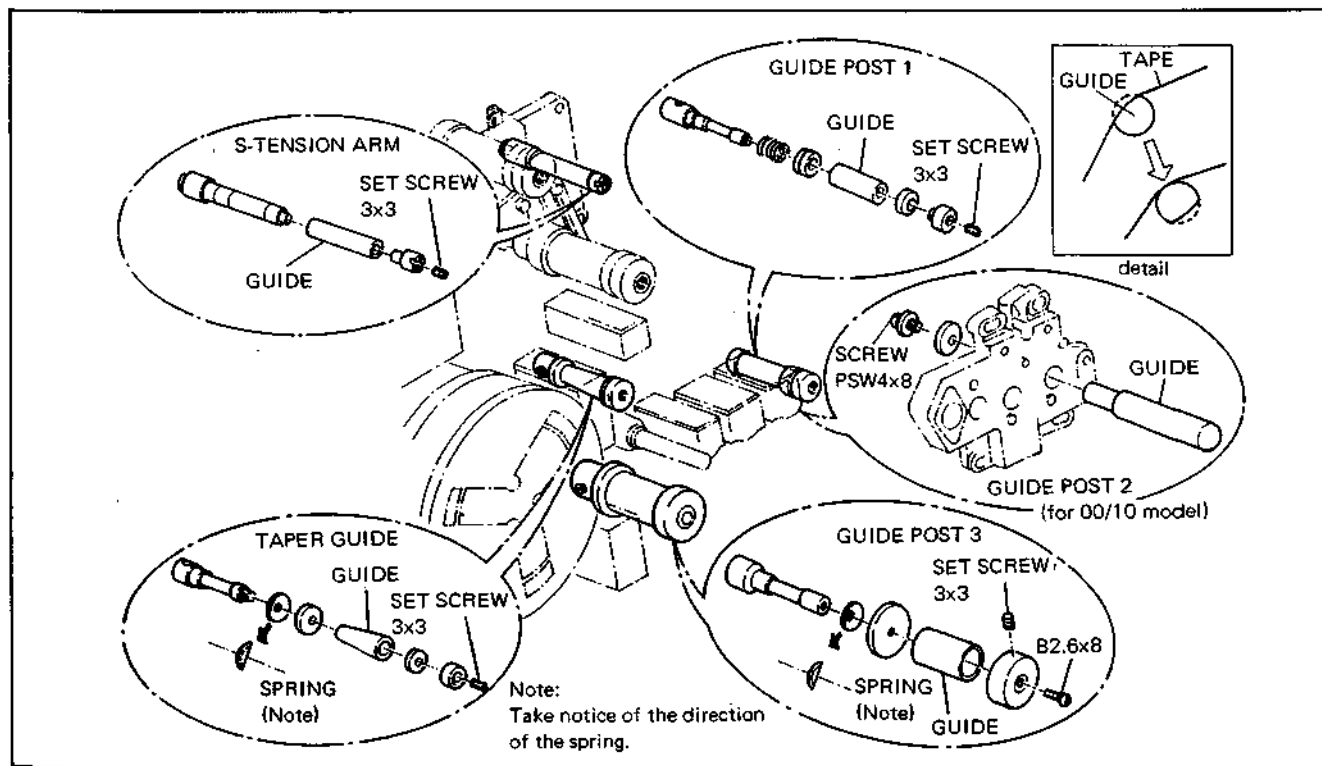

Fig. 6-21. Replacement of Guide Posts
C. When the guide has been worn out, turn the worn surface (see the detail of Fig. 6-21) into the position not coming in contact with the tape and check each item of the above B.
1. Replace the defective part, referring to Fig. 6-21.